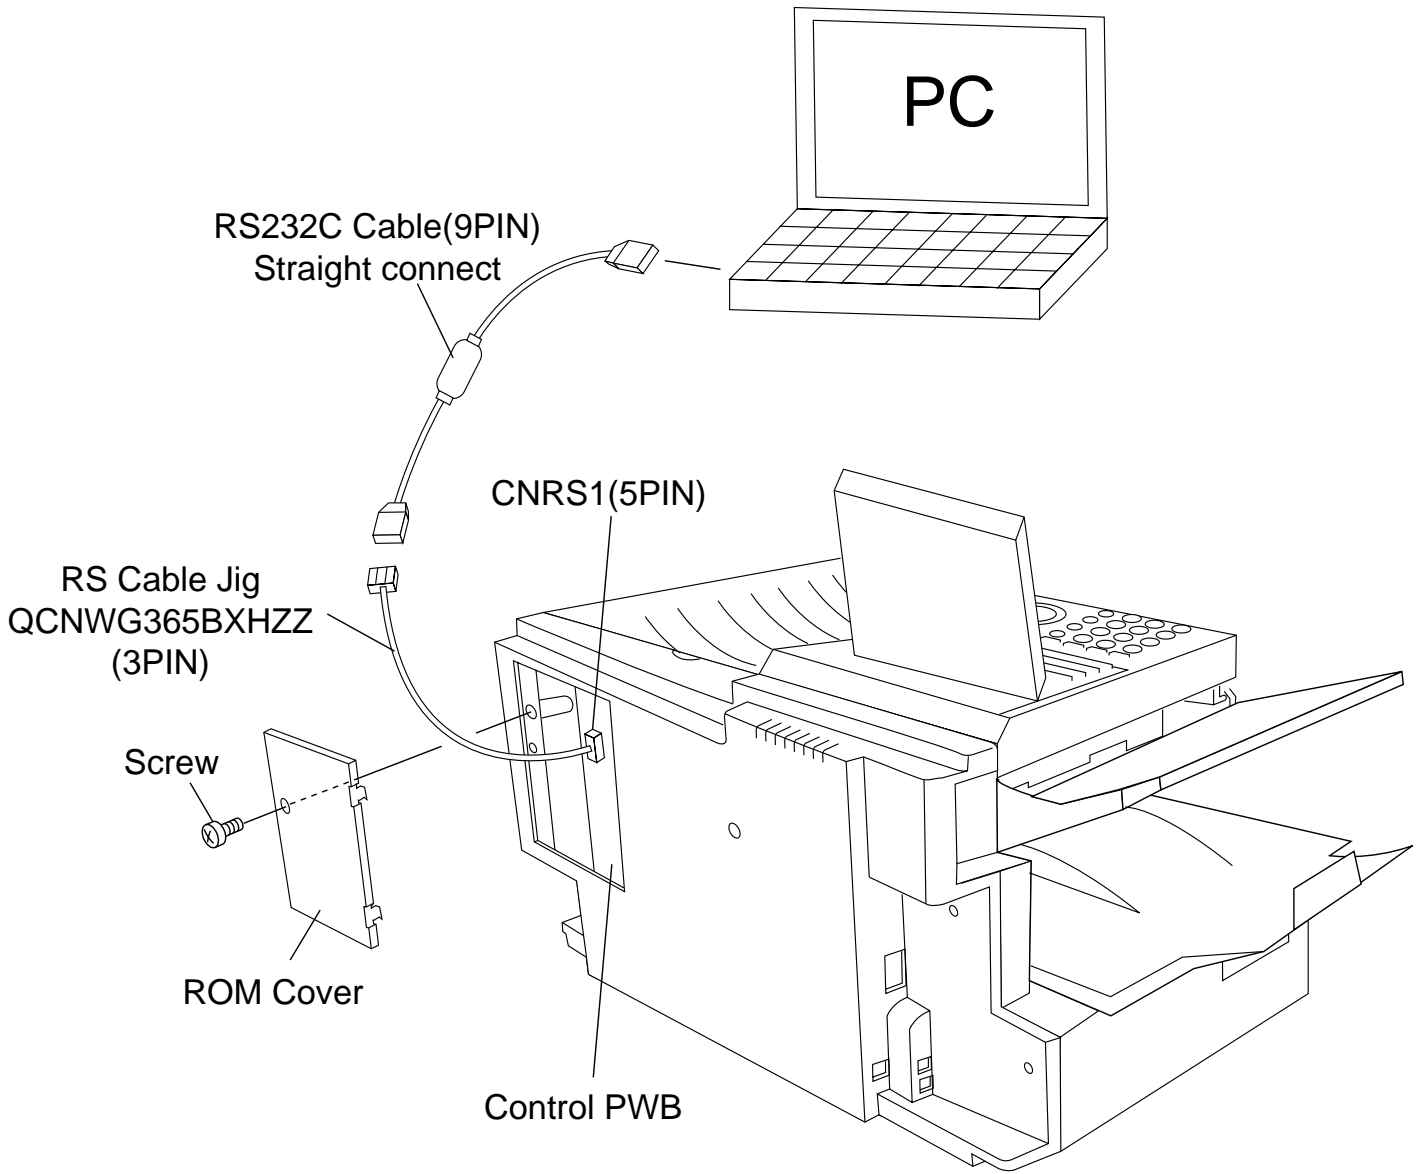

Fig. 5 Connected cable
(3) Start Tera Term Pro.
(4) [File]-[Send File] is chosen. (Fig.5)